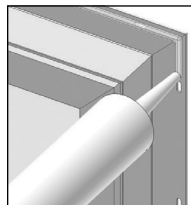

FIG. 11
- Bead must run continuously around both sides and across the head, in line with and completely covering the nailing flange holes. (Fig. 11)